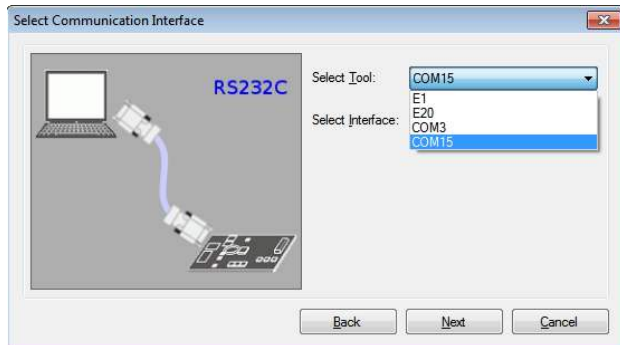

Figure 17. Select Com Port
4. Select assigned COM port number for development board in **Select Tool:** drop-down menu (See Figure 17), and click **Next**.